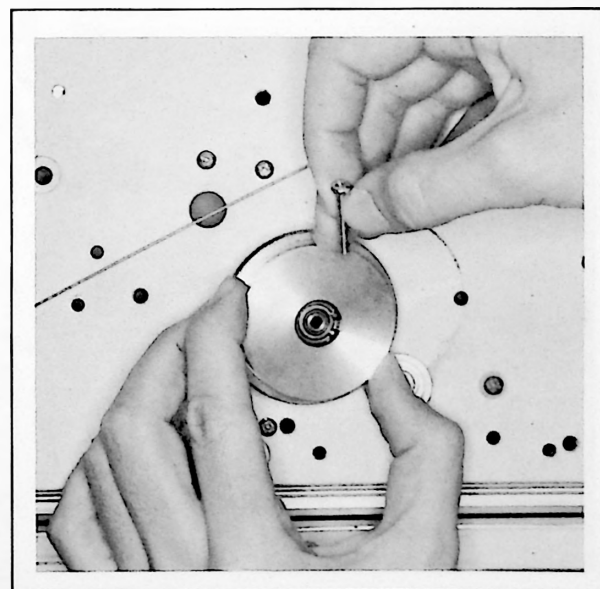

Figure 5-8. Drive Train Bearing Replacement
- c. Stand recorder on front side, hold nut and remove No. 6-32 screw mounting gear. Remove gear. See Figure 5-8.